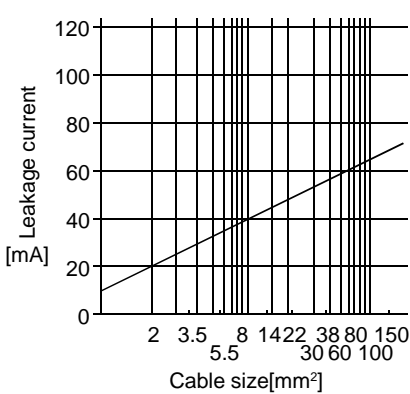

Fig. 14.1 Leakage current example (Ig1, Ig2) for CV cable run in metal conduit
- Ig1: Leakage current on the electric channel from the leakage current breaker to the input terminals of the servo amplifier (Found from Fig. 14.1.)
- Ig2: Leakage current on the electric channel from the output terminals of the servo amplifier to the servo motor (Found from Fig. 14.1.)